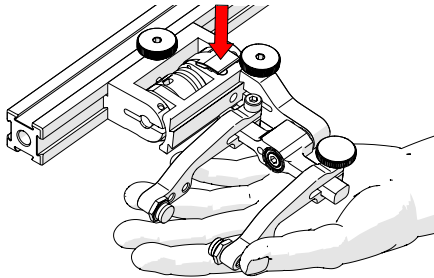

Fig. 54 - Lift slightly and press latch
2. Lift the probe holder slightly and press the latch button (Fig. 54) to release the probe holder the full 45° degrees.